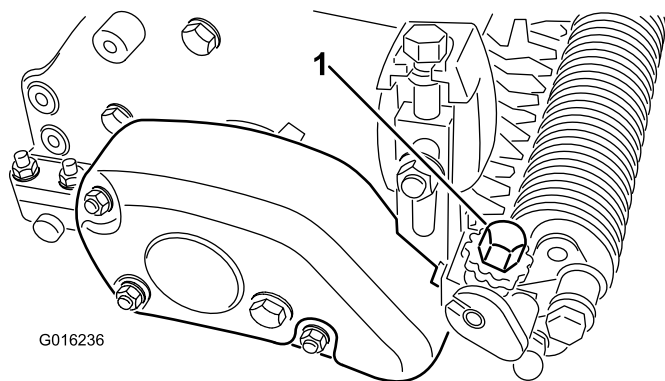

Figure 22
4. On one end of the groomer shaft, measure the distance from the lowest tip of a groomer blade to the work surface. Turn the groomer-height adjusting knob (Figure 22) to raise or lower the blade tip to the desired grooming height. Each notch on the adjusting knob is approximately equal to 0.08 mm (0.003 inch) of groomer depth.